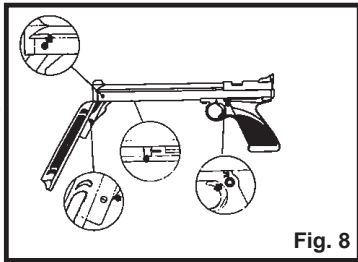

Fig. 8
- Your airgun will maintain proper function longer if you oil it every 250 shots. Put 1 drop of Crosman 0241 Pellgunoil® on the pump cup, and pump lever (Fig. 8).